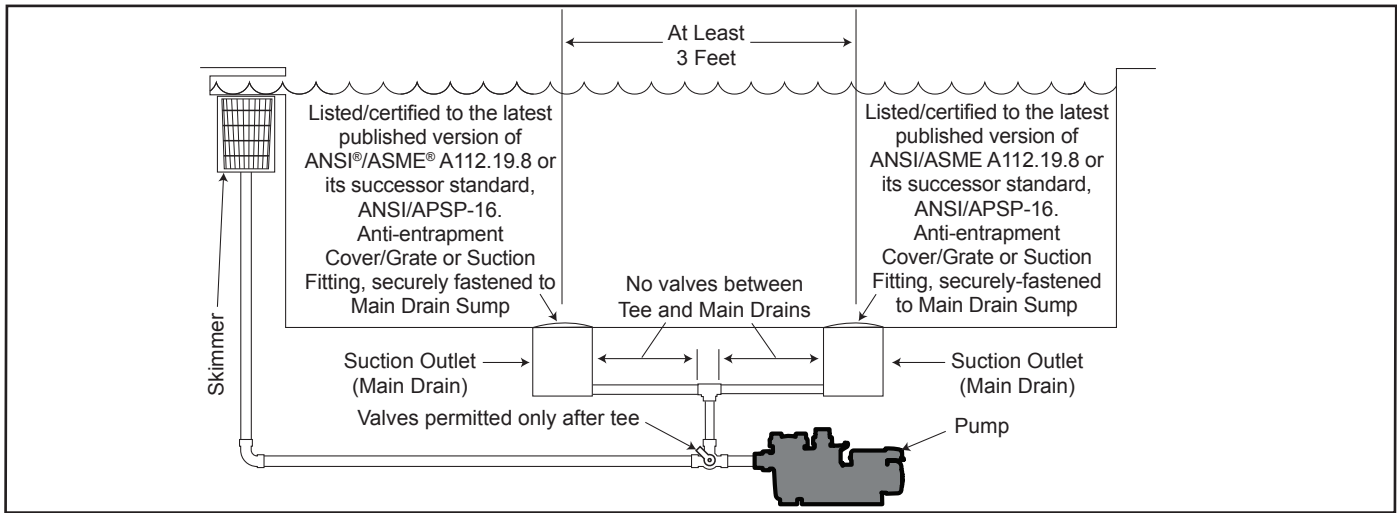

Figure 1. Proper Pump Suction Plumbing
**Number of Suction Outlets Per Pump** - Provide at least two (2) hydraulically-balanced suction outlets, with covers, as suction outlets for each circulating pump suction line. The centers of the suction outlets (suction outlets) on any one (1) suction line must be at least three (3) feet apart, center to center. See Figure 1.
The system **must** be built to include at least two (2) suction outlets (drains) connected to the pump whenever the pump is running. However, if two (2) suction outlets run into a single suction line, the single suction line may be equipped with a valve that will shut off both suction outlets from the pump. The system shall be constructed such that it shall not allow for separate or independent shutoff or isolation of each drain. See Figure 1.